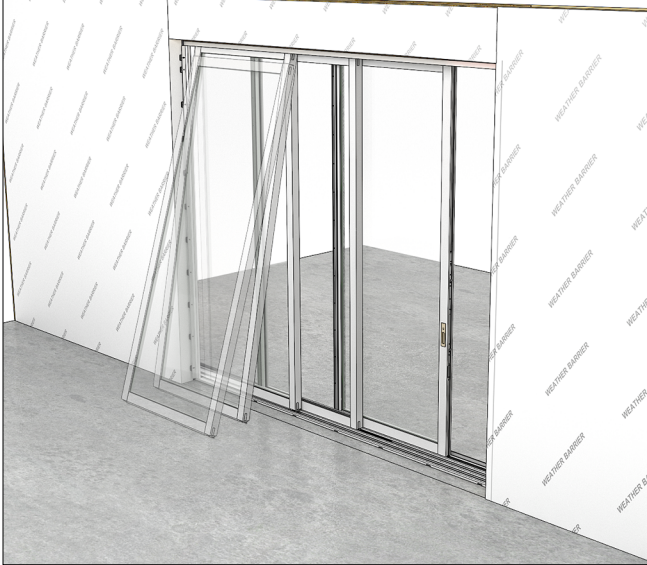

Figure 84 Pocket Panel (exterior installation)
3. Install the pocket panel next. See Figure 84.